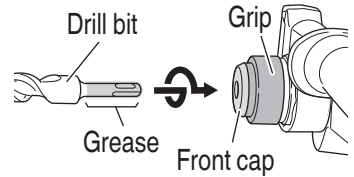

Fig. 9
- (1) Clean, then smear the drill bit shank with grease or machine oil.
- (2) To attach the drill bit (SDS-plus shank), insert it into the hole until it contacts the innermost end of the hole as illustrated in Fig. 9.